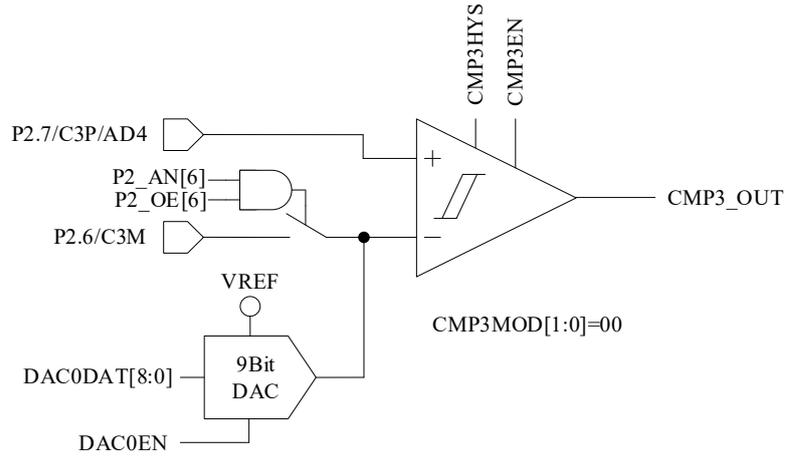

Figure 30-2 Single-comparator Input Mode
- When CMP_CR1[CMP3MOD] = 00, CMP3 works in single-comparator input mode. The connection of input and output pins are shown in Figure 30-2.